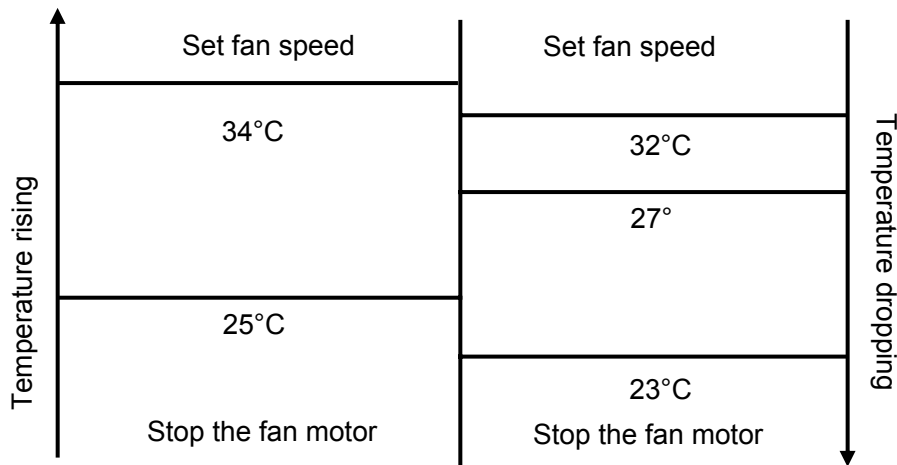

Figure 5 Cold air prevention
a. When running into the heating mode, once the compressor fails to comply with the start-up conditions, the fan speed is regulated according to the coil temperature within 2 min, 2 min later the indoor fan motor stops. If the compressor starts up within 2 min, then operating according to Figure 5.